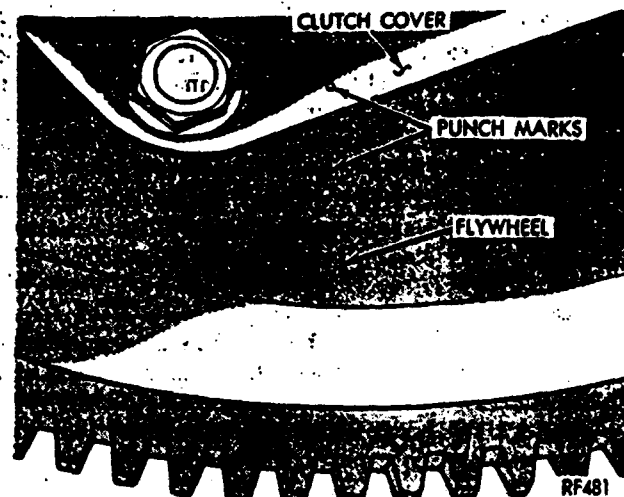

Fig. 4—Clutch and Flywheel Marking
(7) Mark clutch cover and flywheel to maintain their same relative positions when reinstalling clutch assembly (Fig. 4).
(8) Loosen and back off clutch cover attaching bolts, one or two turns at a time, in succession, to avoid bending cover flange.
(9) Remove clutch assembly and disc from clutch housing.